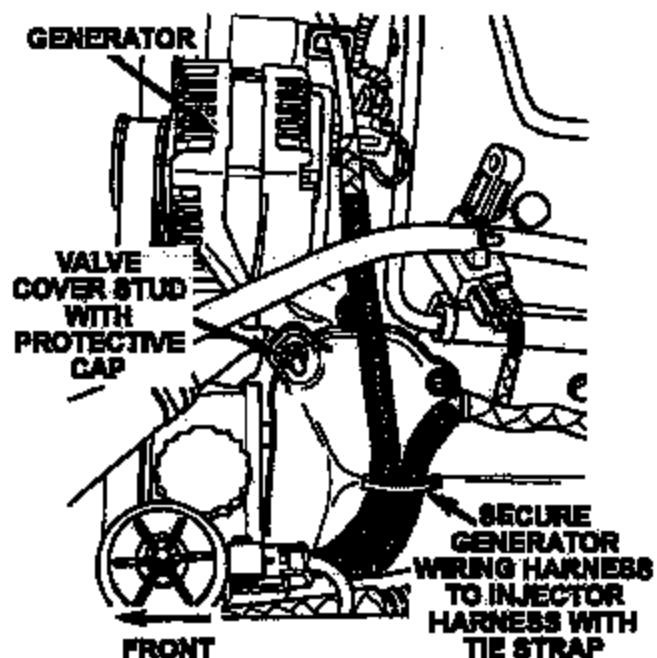

Figure 2
4. Pull the generator wiring harness up and rearward over the valve cover. Secure the generator harness to the injector harness with the provided tie strap (Figure 2).